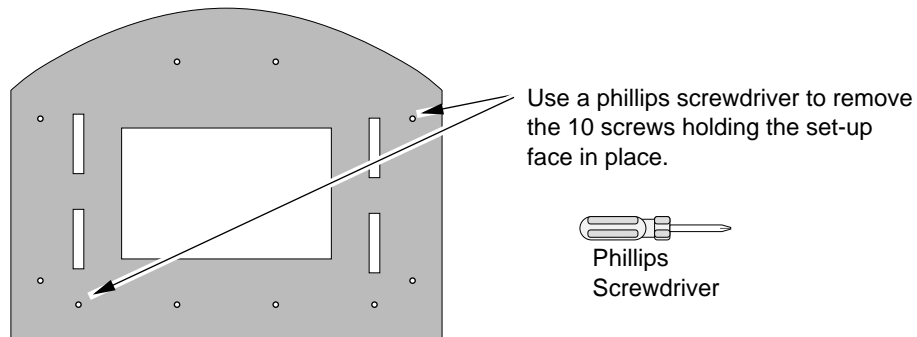

Figure 31
- Remove the set-up face using a phillips screwdriver (see Figure 31).